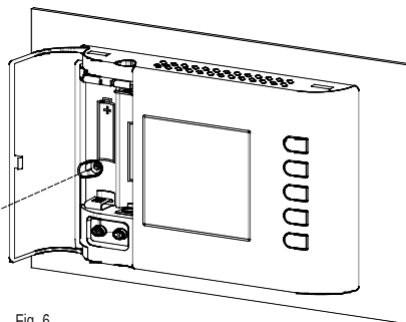

Fig. 6
- 5 Secure the body of the programmable thermostat to the wall plate using the supplied screw that is located inside the battery compartment (Fig.6).